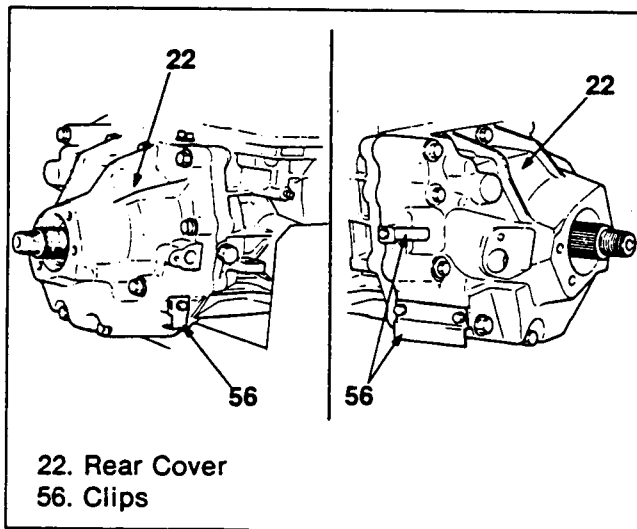

Figure 38. Rear Cover Clip Removal
3. Remove clips (3 pcs) (figure 38).